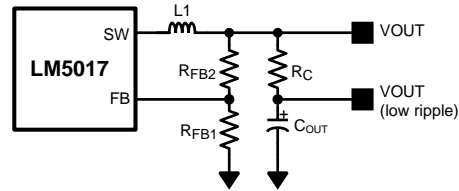

Figure 14. Low Ripple Output Configuration
This regulator regulates the output voltage based on ripple voltage at the feedback input, requiring a minimum amount of ESR for the output capacitor (C_{OUT}). A minimum of 25mV of ripple voltage at the feedback pin (FB) is required for the LM5017. In cases where the capacitor ESR is too small, additional series resistance may be required (R_C in Figure 14 Low Ripple Output Configuration).
For applications where lower output voltage ripple is required the output can be taken directly from a low ESR output capacitor, as shown in Figure 14 Low Ripple Output Configuration. However, R_C slightly degrades the load regulation.